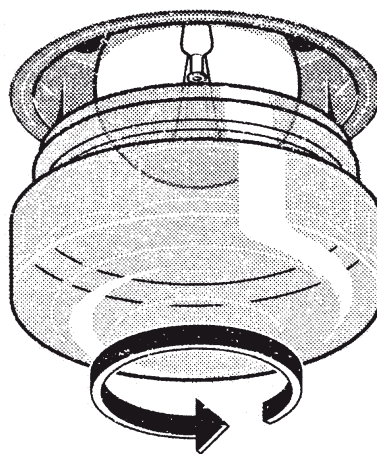

Fig. 5
- Unscrew the lamp cover (Fig. 5), replace the lamp (see note for lamp type) and screw the lamp cover back on.